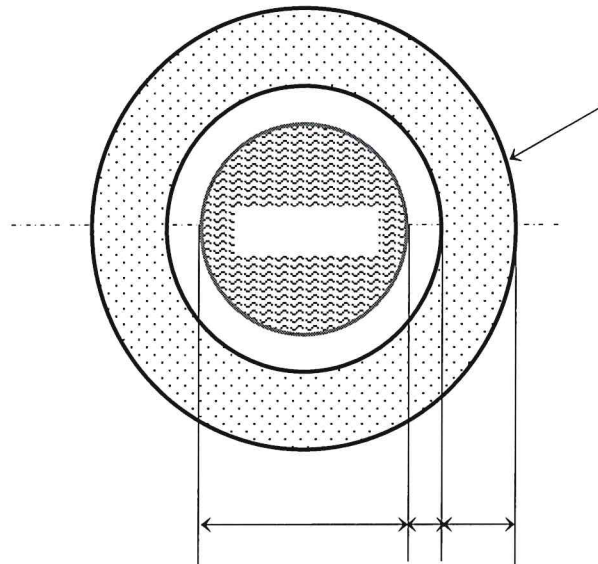

Figure 4b: Heat Flow Diagram
- (b) An oil flow through a 40 mm bore steel pipe with the thickness of 4 mm. The pipe is covered by 10 mm thickness of insulator with the thermal conductivity of 0.038 W/m.K as shown in **Figure 4b**. The temperature of the oil in the pipe is 75°C and the ambient temperature is 17°C . The internal thermal conductivity of steel is 50 W/m.K and the inside and outside heat transfer coefficient are 300 W/m2.C and 17 W/m2.C respectively. Neglecting radiation, calculate the following: